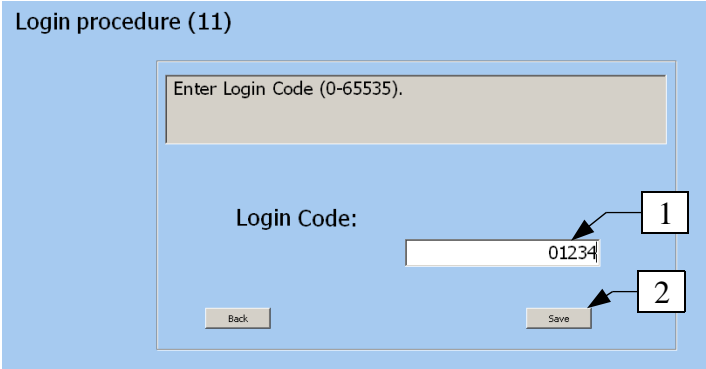

Figure 6.33
In some control units you have to input an authorization code/password in order to perform certain settings (changing keys etc.). This is done using the Login procedure option (Figure 6.33). After you input the password (1) and press the Save button (2), the program asks you for confirmation of unlocking.